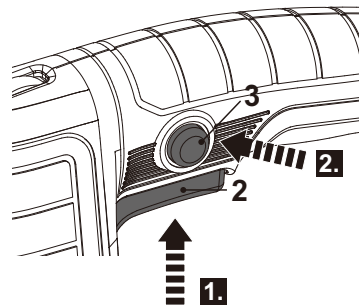

Fig. 11
- > Switch the product on by pressing the on/off switch (2) and hold it in position (Fig. 11, step 1).
- > Press the lock-on button (3) and hold it in position to lock the on/off switch (2) (Fig. 11, step 2).
- > Release the lock-on button (3) and on/off switch (2). The on/off switch is now locked on for continuous use.
- > Depress and release the on/off switch (2) to switch the product off.